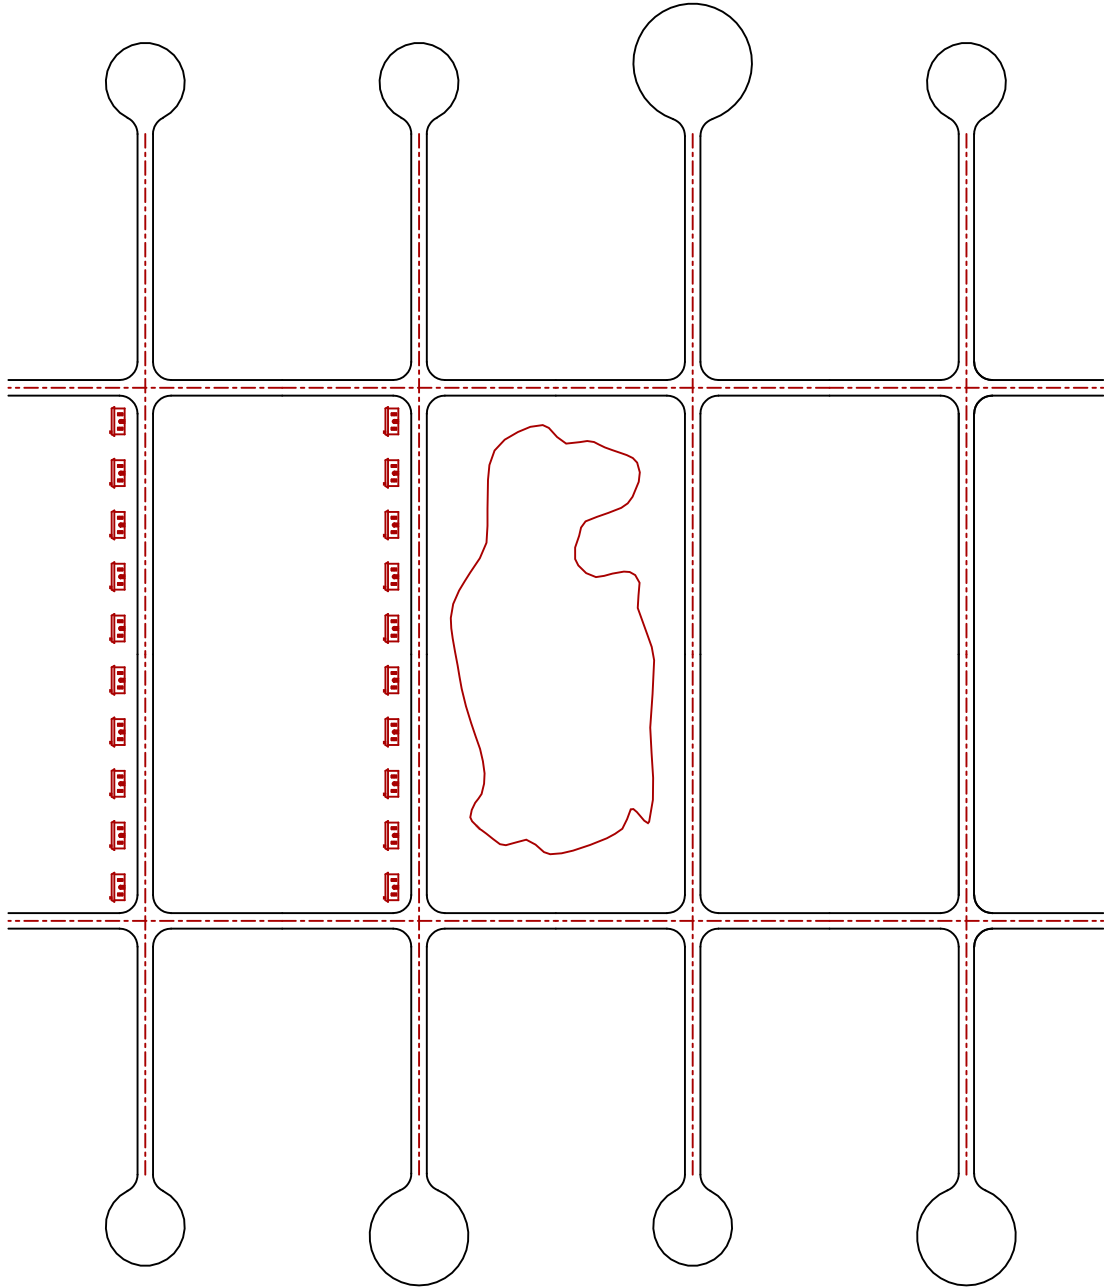

FIGURE 1-LAB 9
Lab 10 is a continuation of work with cells (Lab 9). It is also designed to give the student practice in using patterning, active points, and line terminators. Refer to Lab 10 Figures 1, 2, and 3 for the exercise illustrations.
2. Create a cell representing a railroad track called RR. (This and the following cells are shown in Figure 1-Lab 10)